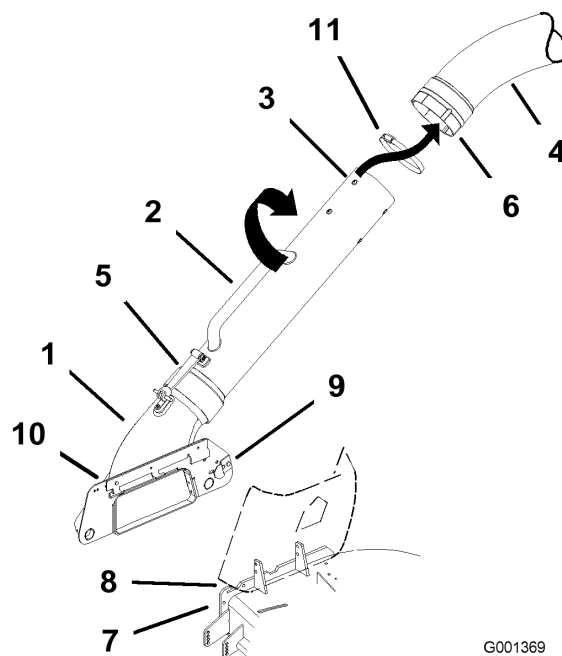

Figure 27
6. Place the rear hook over the rear of the mounting bracket (Figure 27).
7. Install the upper tube into the bagger (Figure 27).
8. Slide the clamp onto the middle tube (Figure 27).
9. Align the knob on the middle tube with the notch in the upper tube. Slide the middle tube into the upper tube and twist the middle tube 60 degrees (Figure 27).
10. Tighten the clamp around the upper and middle tube connection (Figure 27).
11. Slide the middle tube onto the boot and latch them together (Figure 27).